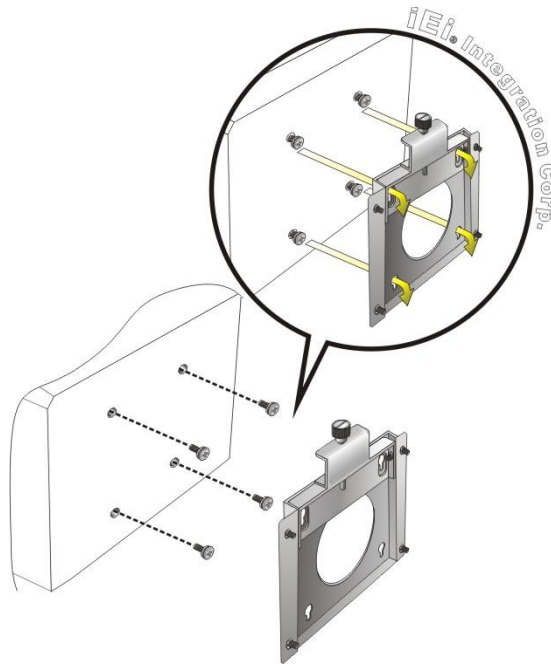

Figure 3-7: Chassis Support Screws
- Step 6:** Insert the four monitor mounting screws provided in the wall mount kit into the four screw holes on the rear panel of the panel PC and tighten until the screw shank is secured against the rear panel (**Figure 3-7**).
Step 8: Carefully insert the screws through the holes and gently pull the monitor downwards until the monitor rests securely in the slotted holes (**Figure 3-7**). Ensure that all four of the mounting screws fit snugly into their respective slotted holes. Always keep the PPC2-CWxxxA-ADLP Series in landscape orientation when mounting on the wall.